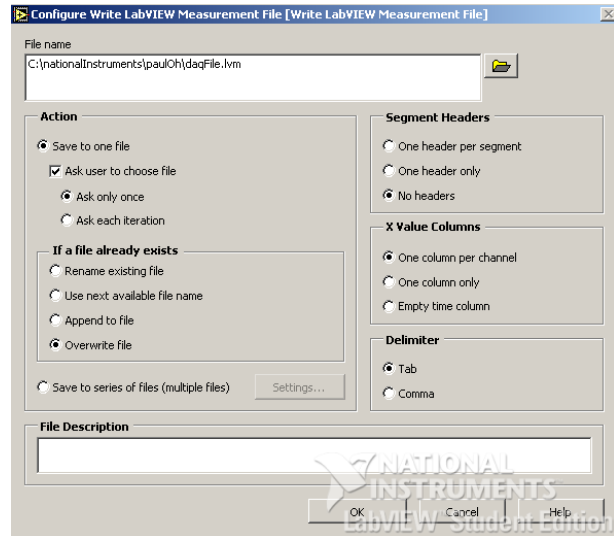

Figure 5: LabVIEW Measurement file (LVM) screen
Step 3: Acquired data is saved to a file on the hard disk. In the block diagram: Right-click - File I/O - Write To Measurement File. Set your configuration screen to match the one given in Figure 5.